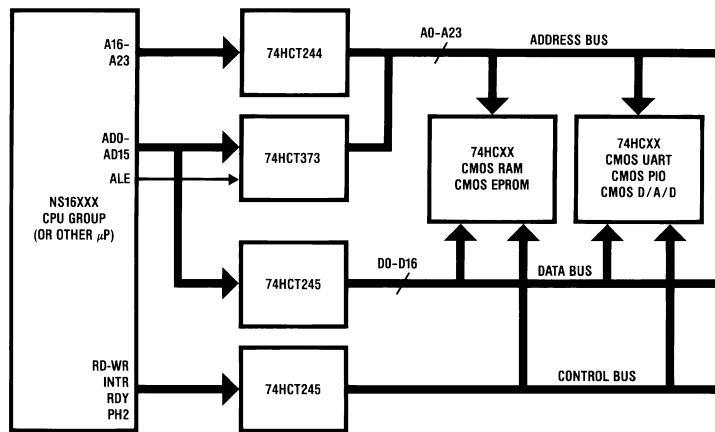

FIGURE 2. Applications Where a TTL Compatible NMOS Microprocessor is Interfaced to a CMOS System
1. The first case is illustrated in *Figure 2*. In this case the system is a TTL compatible microprocessor. This figure shows an NS16XXX (any NMOS μ P may be substituted) that is in a typical system and therefore must be interfaced to 54HC/74HC. In this instance, the popular gate, buffer, decoder, and flip-flop functions provided in the 54HCT/74HCT sub-family can be used to interface the many lines that come from TTL compatible outputs. It is also easy to upgrade this configuration to an *all* CMOS system once the CMOS version of the microprocessor is available by replacing the HCT with HC.